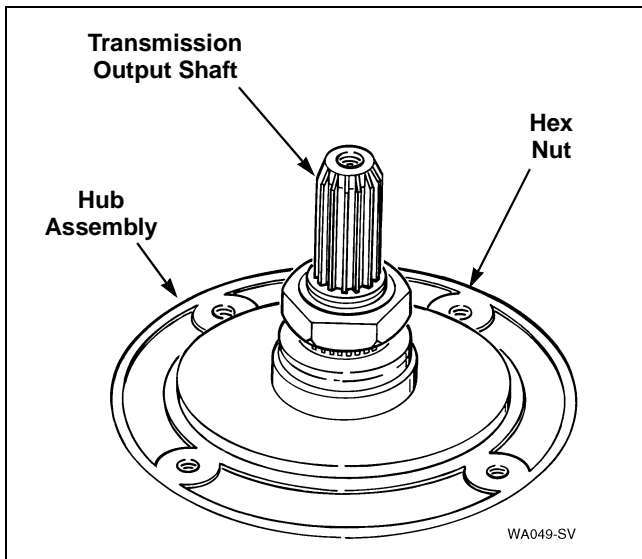

Figure 37
- j. Remove the large hex nut using No. 306P4 Hex Wrench. Refer to *Figure 37*.